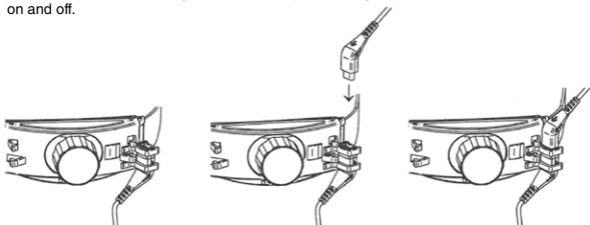

Fig. 8
To set up the ML4 LED with mPack or EN50, connect the short cord from the brightness control with the connecting cord mPack UNPLUGGED/Cinch and fix this to the back part of the headband (Fig. 8). Connect the instrument to the Cinch-socket of the mPack or EN 50. The rheostat (1) (Fig. 6) is used to adjust the brightness and to turn the device on and off.